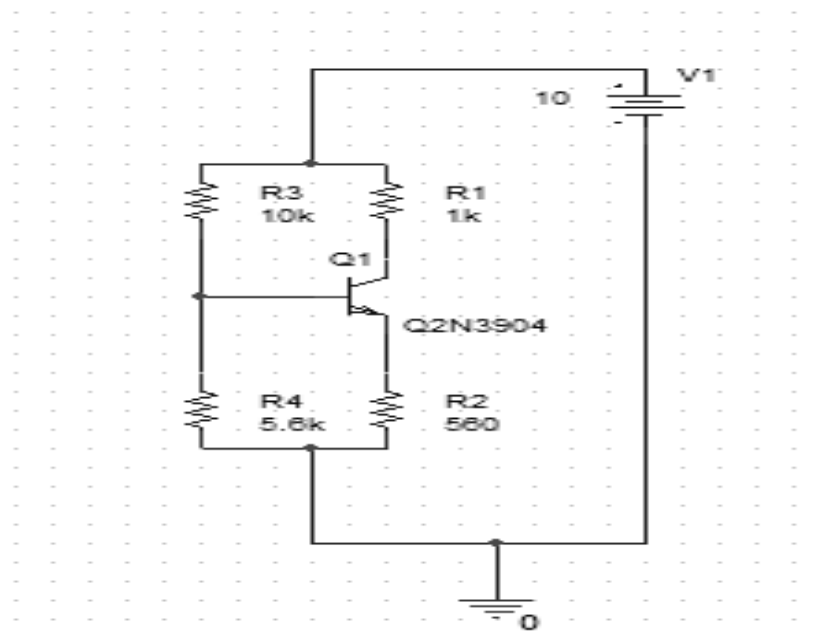

Fig.1: The Schematic diagram of voltage divider biased DC circuit for BJT operation
- Implement the circuit in Fig. 1